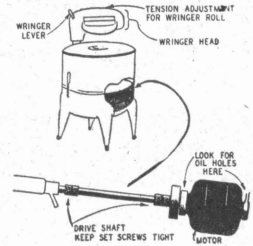

Fig. 55
## II. Wringer Does Not Operate Properly (Wringer Type, Fig. 55).
1. **Cause:** Wringer lever not turned completely to "ON" position. Fig. 55.
**Remedy:** Adjust for correct pressure or tension. Fig. 55. There are other wringer troubles of a mechanical nature that cannot be repaired in the home. The wringer can be easily lifted from the machine and taken for repair to a serviceman, dealer, or manufacturer.
**Remedy:** Tighten set screws on drive coupling at motor end and agitator shaft end. Fig. 55.
1. **Lubrication:** With most electrically driven washers, lubrication has been provided at the factory for the life of the washer. However, examine the wringer head and motor (Fig. 55) for oil holes. Oil motor monthly, with 2 or 3 drops of electric motor oil. Oil casters frequently.